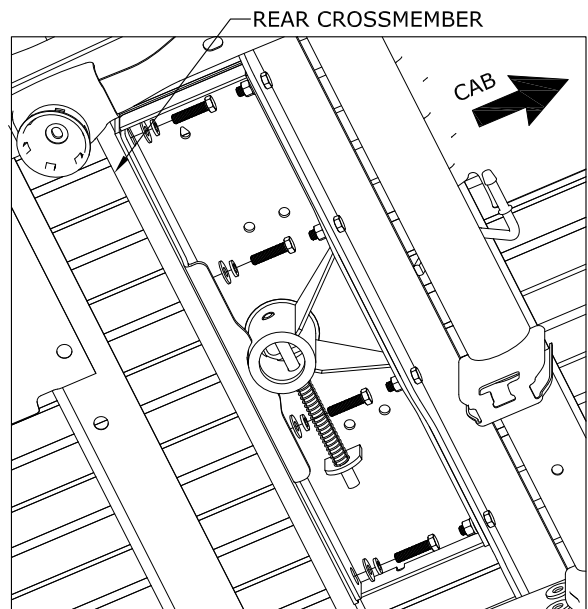

FIGURE B11: View under the center section looking from in front of the axle on the passenger side.
6. Attach the rear cross member to the center. Slide the rear cross member up against the center section. Line up the slots in the center with the threaded holes in the cross member. Attach the two members using $\frac{1}{2}$ x 2" long bolts, flat washers, and lock washers as shown in figure B11. Hand tighten bolts.